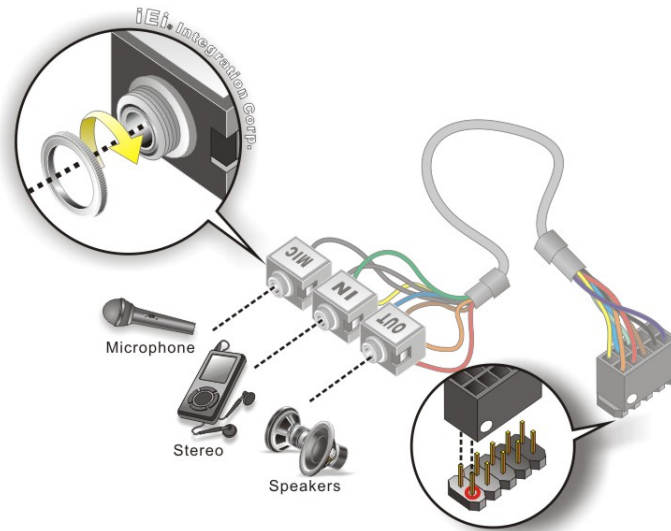

Figure 4-18: Audio Kit Cable Connection
Step 2: Align pin 1. Align pin 1 on the on-board connector with pin 1 on the audio kit connector. Pin 1 on the audio kit connector is indicated with a white dot. See Figure 4-18.